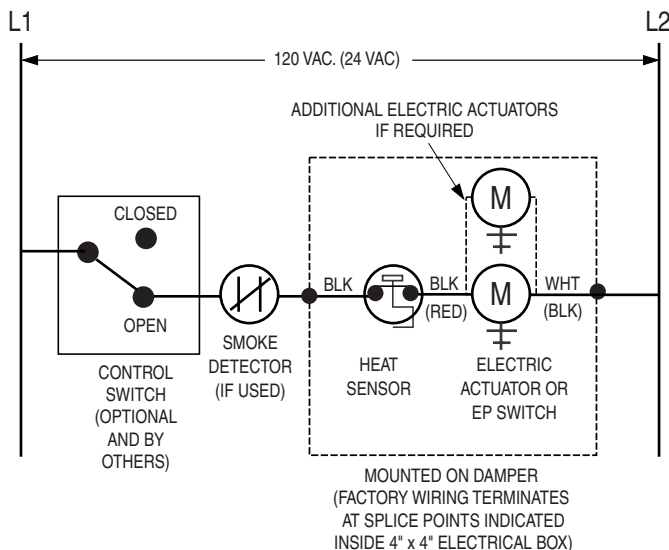

Figure 1. ERL Wiring
- Duct diameters 22" (559) and smaller must use three #10 sheet metal screws equally spaced around the circumference.
**4 Damper/sleeve attachment:** Damper shall be secured to sleeve with 1/4" (6) long welds, 3/16" (4.76) steel rivets, 1/4" (6.35) dia. bolts and nuts, #8 sheet metal screws, or 3/16" (4.76) dia. buttonloks on both sides at 6" (152) on center and a maximum of 4" (102) from the corners of the damper on all four sides. For field assembled sleeves, the inner dimensions of the sleeve shall be equal to the outer dimensions of the damper. All joints between the damper and the sleeve shall be sealed with Dow-Corning 732, G.E.108, Boss 310 or 315 RTV silicone sealant on one side only.
**5. Upper Retaining angles** shall be a minimum of 1 1/2" x 1 1/2" x 16 gauge (38 x 38 x 1.61). Secure the retaining angles to the sleeve with 1/2" (12.7) long welds, 1/4" (6.35) dia. bolts and nuts, 3/16" (4.76) dia. steel rivets or #8 sheet metal screws 8" (203) on center and 2" (51) maximum from corner of sleeve on all four sides. The retaining angles must lap the structural opening by 1" (25.4) minimum. When the ductwork terminates at the ceiling, 2" (51) wide mounting tabs are fastened to the sleeve in two places on each of two opposite sides of the sleeve. These tabs are bent over after installing damper through ceiling opening. A steel grille or diffuser frame with a minimum 1" (25.4) flange is then fastened to the mounting angle tabs with sheet metal screws.
**ERL (Electric Resettable Link):** Dampers are supplied with an electric thermostat-type temperature responsive device as standard. Refer to Figure 1 for wiring of the ERL. If dampers are ordered with a pneumatic actuator and ERL, an EP switch is required with an appropriate electric power circuit to allow the ERL to control the pneumatic actuator.